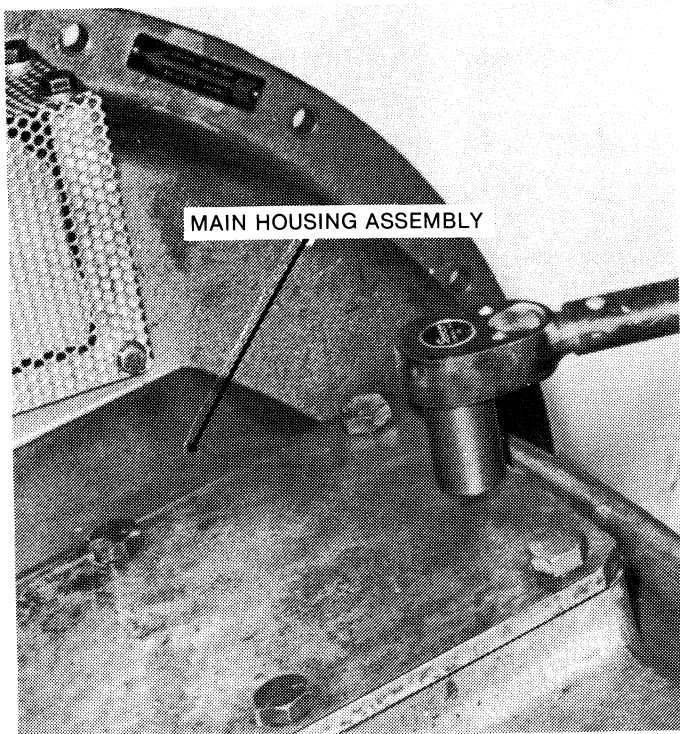

Figure 6-3. Removing or Installing Housing Top Cover.
4. Remove the hex-head capscrews from the top cover and remove the cover and gasket. See Figure 6-3.